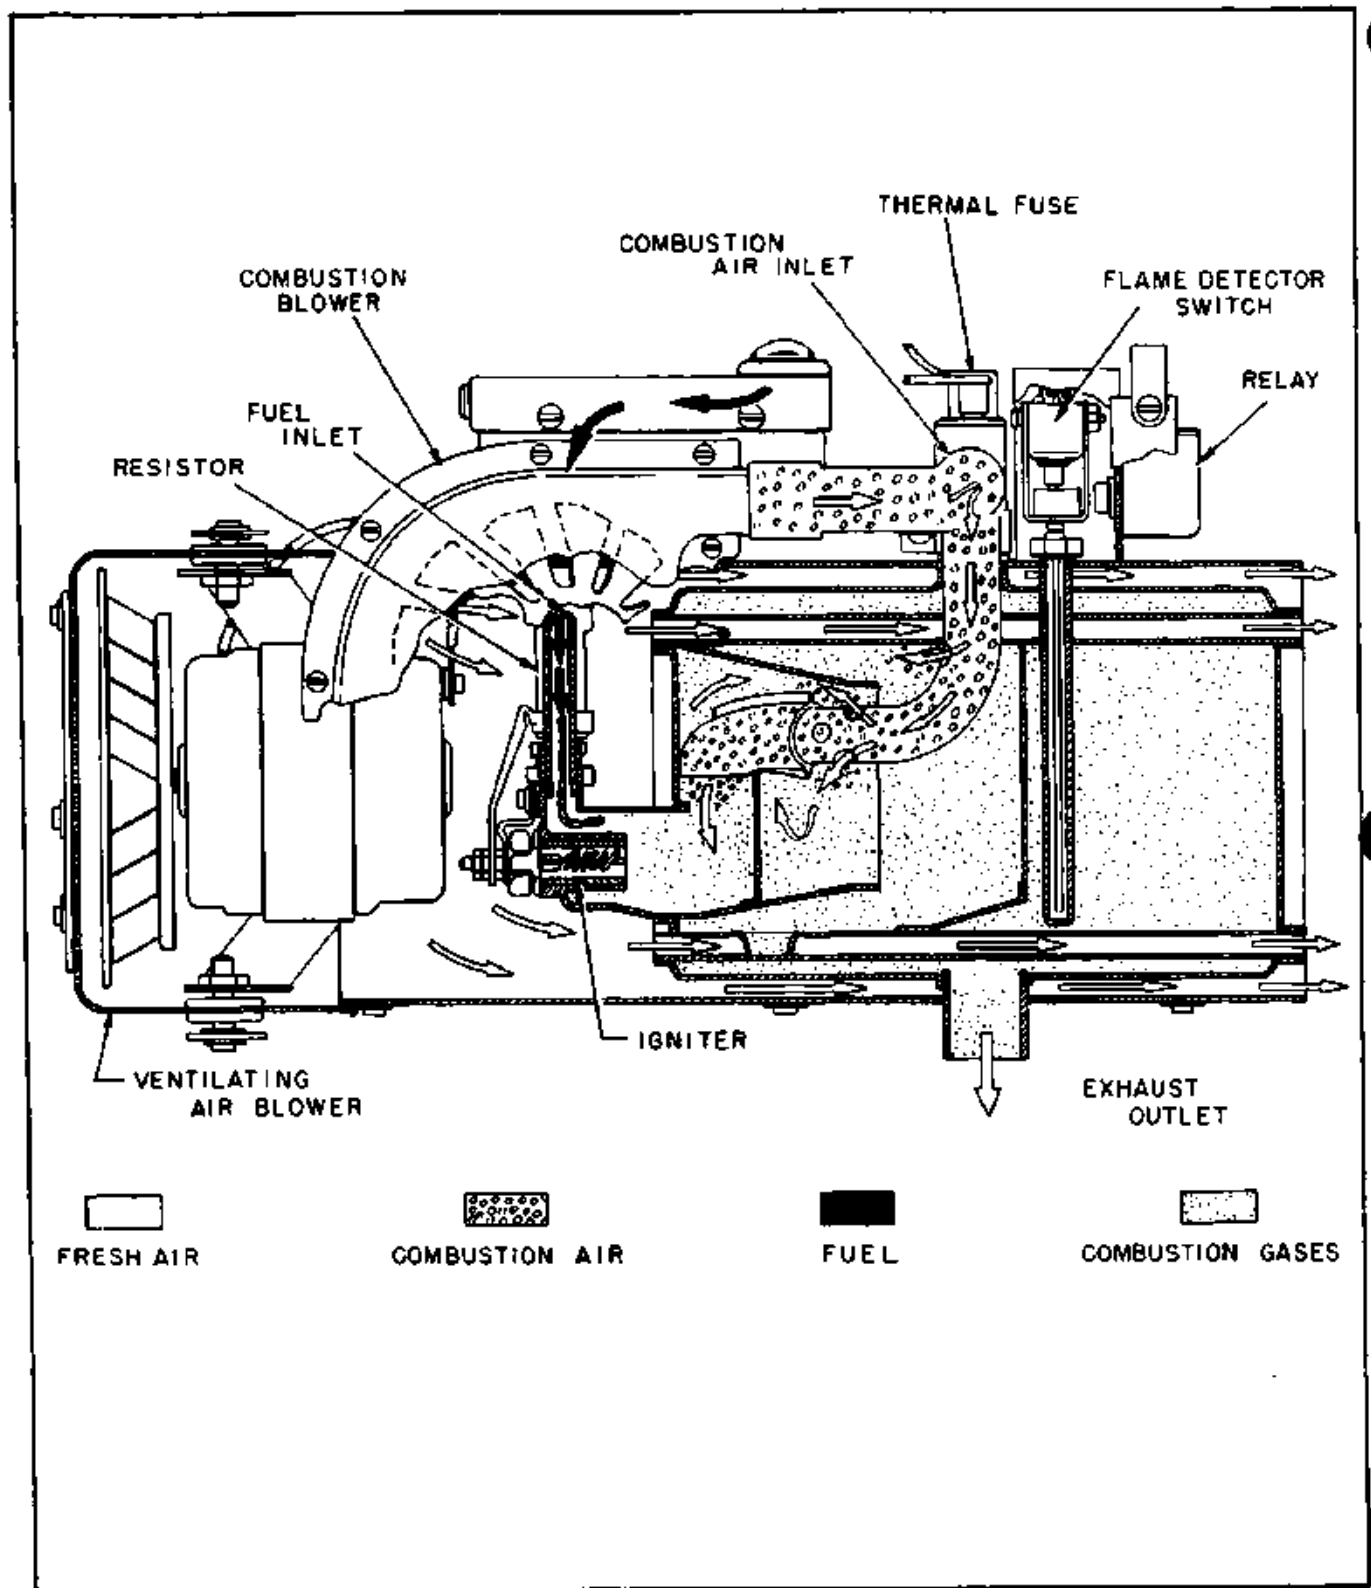

Figure 13-5. Flow System (South Wind Heater)
**13-10. PRINCIPLES OF OPERATION.** The South Wind Heater produces heat by burning a mixture of gasoline and air in a sealed, all-welded, stainless steel heat exchanger. (Refer to Figure 13-5.) Air for combustion is obtained from a blower on the side of the heater housing and is introduced into the heat exchanger through two metal elbows. Gasoline is obtained from the airplane's fuel system and is supplied to the heater through a safety valve and filter which may be mounted at any convenient point near the heater.
After being metered by the fuel control valve, the fuel passes through a short steel tube and enters a vertical standpipe. (Refer to Figure 13-5.) The fuel drips down the standpipe and saturates the stainless steel wick in the combustion chamber. The standpipe is surrounded by an electric heating element which is energized during the starting period and serves to preheat the fuel, thus insuring quick starts even at lowest temperatures.
When the shut-off solenoid is closed or unenergized, no fuel can enter the standpipe, and the heater is completely shut off. When the shut-off solenoid is energized, fuel flows through the low heat metering orifice and the heater burns on low heat. When both the restriction and shut-off solenoids are energized, fuel flows through both the low heat orifice and the restriction orifice, thereby providing sufficient fuel for high heat operation. After leaving the fuel control valve, the fuel drips down the standpipe where it saturates the stainless steel wick extending into the combustion chamber. (Refer to Figure 13-5.)
13-18. **COMBUSTION AIR SYSTEM.** The combustion air blower blows air through the metal elbows into the heat exchanger. Inside the heat exchanger the air passes through another duct (Refer to Figure 13-5,) and is blown into the burner cone, where it mixes with the gasoline vapor and the mixture is ignited by the igniter.
**13-22. IGNITER.** The igniter is an electric "glow plug" type of heating element which glows red hot when energized. (Refer to Figure 13-5.) To prolong the life of the igniter, it is shut off by the flame detector switch as soon as combustion starts.